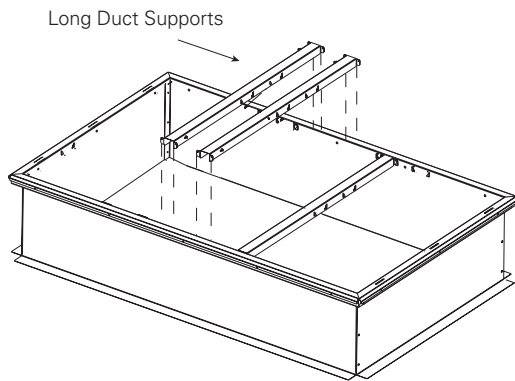

Figure 2. Step two
4. Insert the other two long duct supports as shown. See Figure 2, p. 5. Verify the 4.88" and 16.75" dimensions between long duct supports. See